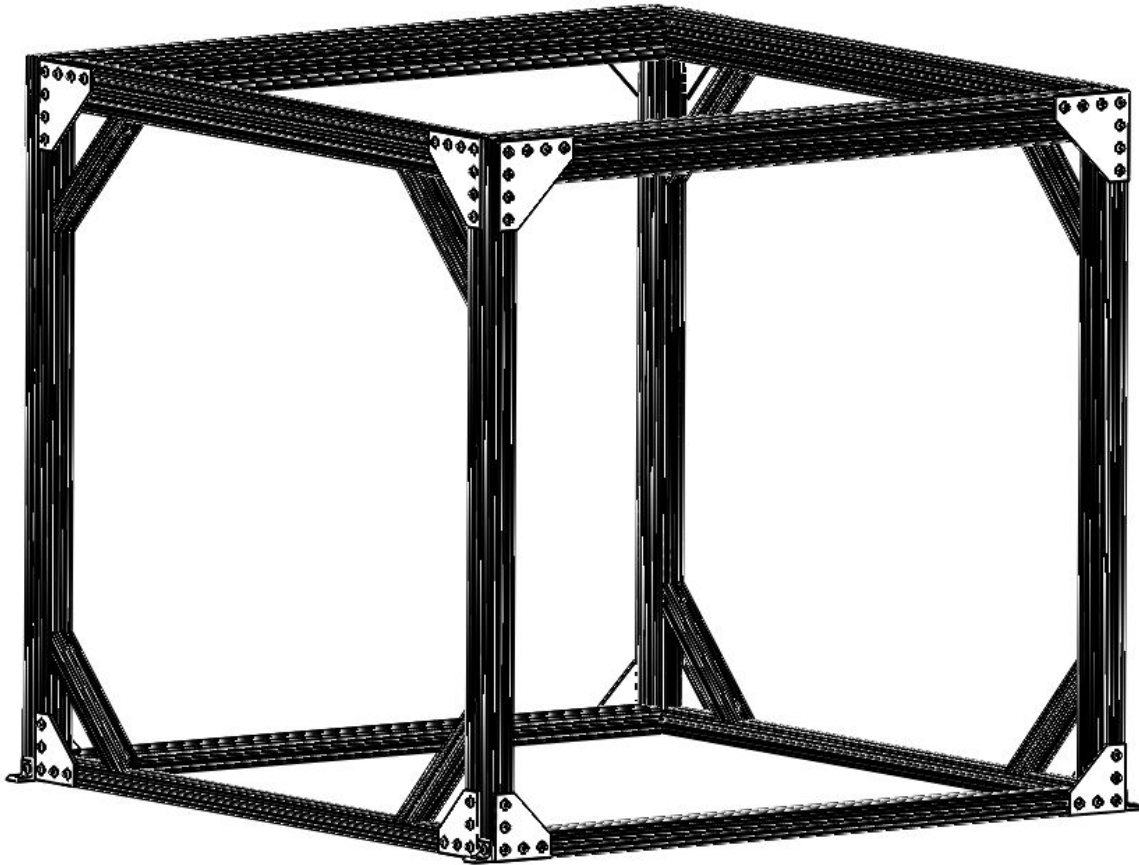

Fig. 3.17: RCbenchmark enclosure. The 4'x4'x4' configuration (SKU#: KXAEC) is shown here.
- Small enclosure 4' Width x 4' Depth x 4' Height shown in Fig. 3.17 (SKU#: KXAEC)